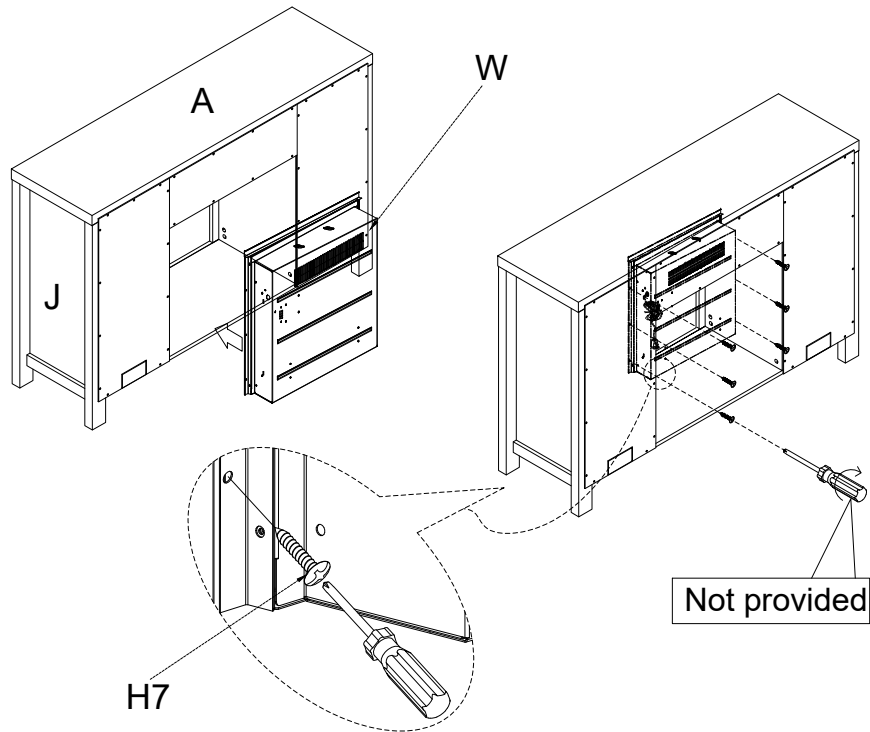

Figure 18
Place the Electric fireplace insert (W) into the assembled mantel from the back and center it in the front opening. Secure the Electric fireplace insert (W) to the mantel with Round head screw (H7) using screwdriver (Not provided) as shown in figure 18.